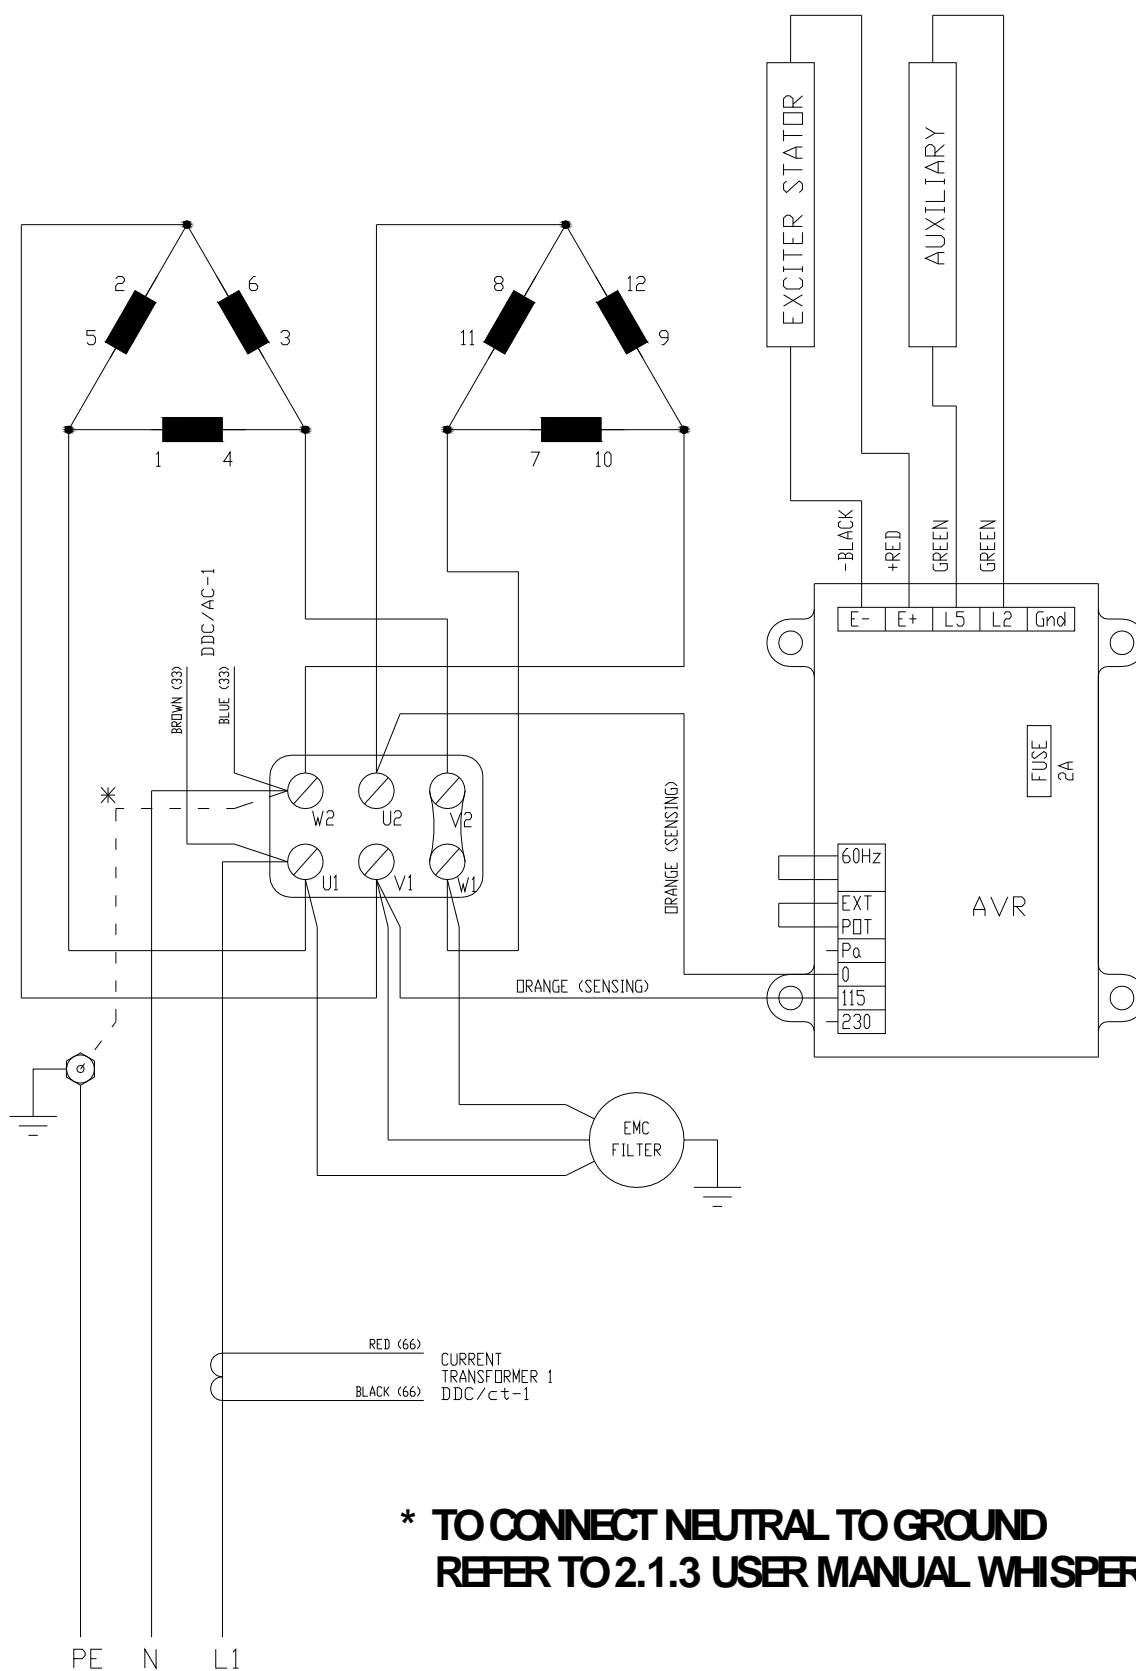

Fig 16. AC Wiring Diagram single phase with AVR 230V Hz (Double Delta)
- 5 Lock liftpump plunger (2) (See fig 16) by pushing it full down and turning it to the right.
- 6 Tighten the air bleeding screw (1)